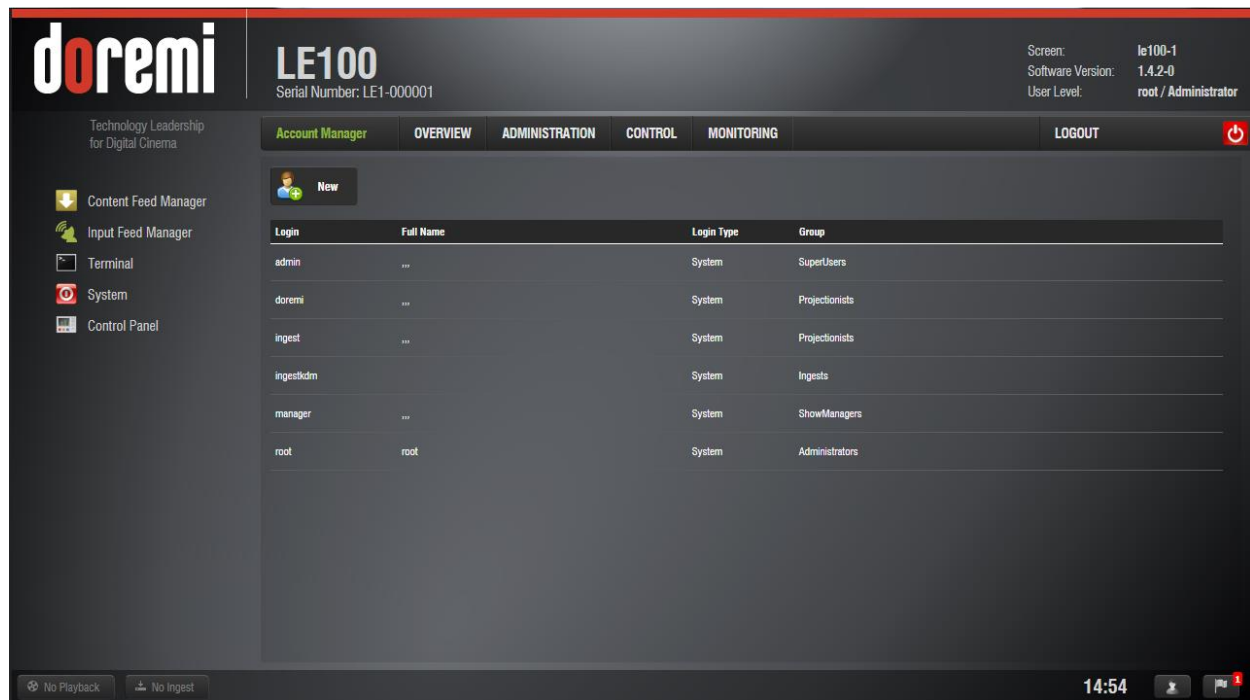

Figure 17: Control Panel – Account Manager
- To access the Account Manager, select the Administration tab followed by the Control Panel and then Account Manager (see Figure 17).